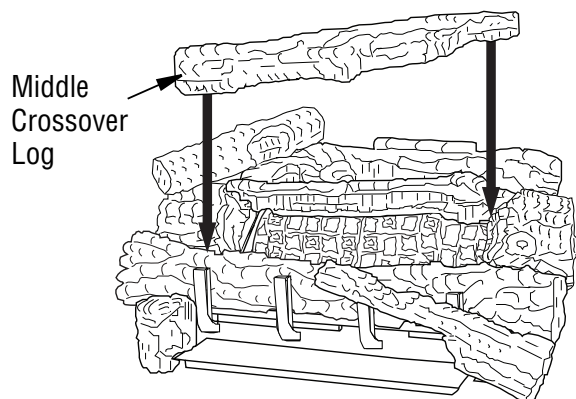

Figure 38 - Installing Middle Crossover Log
11. Rest the middle crossover log (18" D-070, 24" & 30" D-044) onto the right middle log and the left front log (see **Figure 38**). Make sure to match the projection on the bottom of the crossover log with the recess area in the right middle log and the left front log.